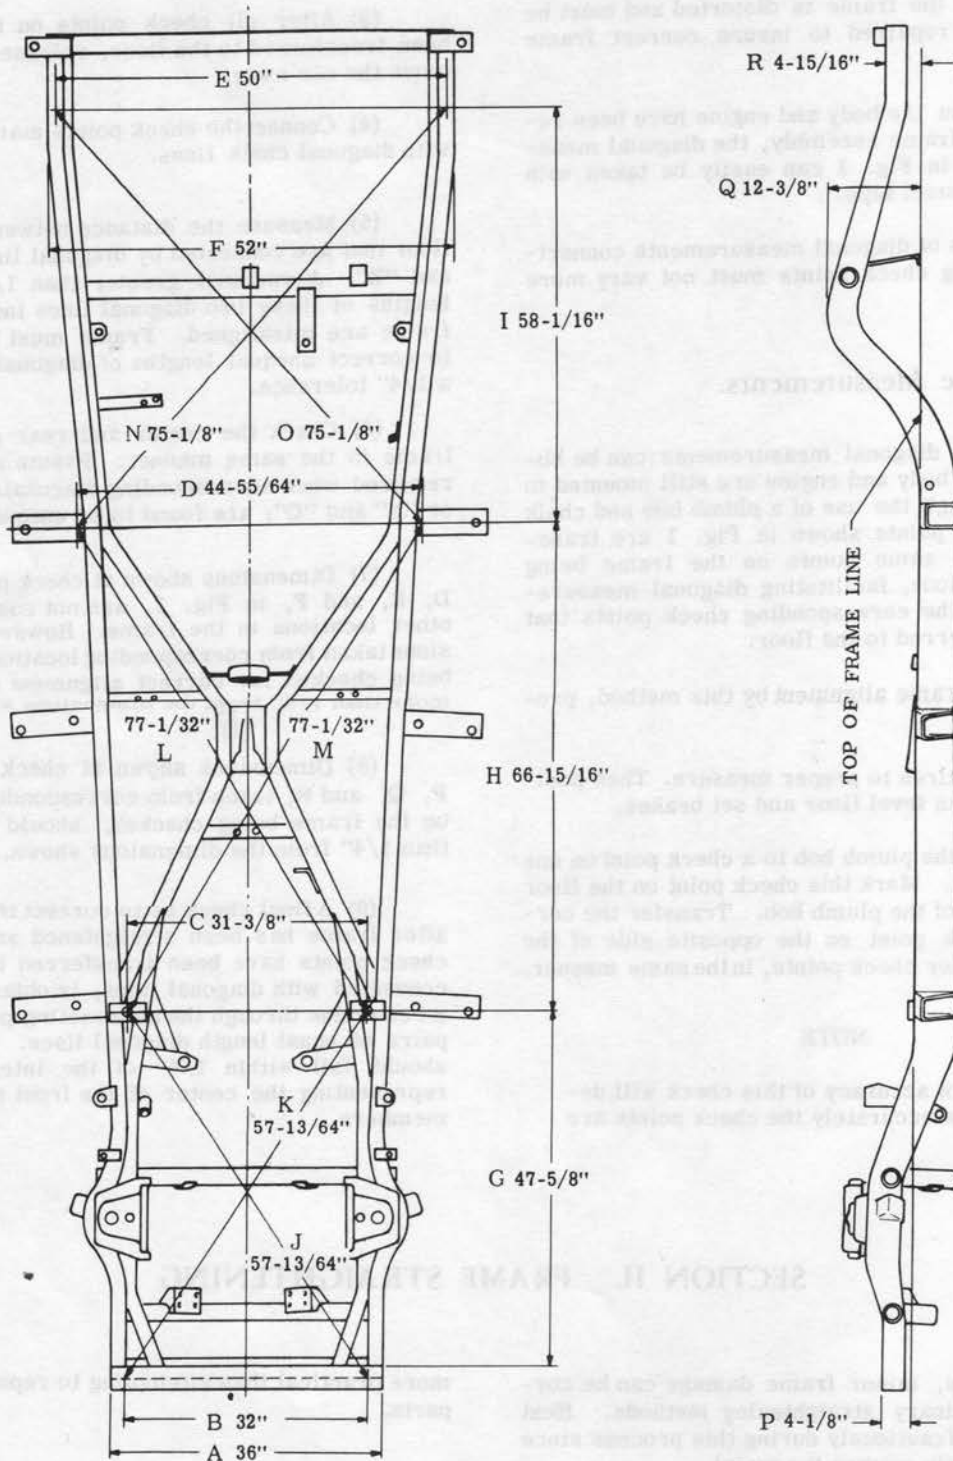

Fig. 1 - Frame Straightening Measuring Points
b. In the event the body and engine have been removed from the frame assembly, the diagonal measurements shown in Fig. 1 can easily be taken with tram gages or a steel tape.
a. The frame diagonal measurements can be obtained while the body and engine are still mounted to the frame, through the use of a plumb bob and chalk line. The check points shown in Fig. 1 are transferred from the same points on the frame being checked to the floor, facilitating diagonal measurements between the corresponding check points that have been transferred to the floor.
(1) Inflate tires to proper measure. Then position car on a clean level floor and set brakes.
(2) Attach the plumb bob to a check point on one side of the frame. Mark this check point on the floor under the point of the plumb bob. Transfer the corresponding check point on the opposite side of the frame, and all other check points, in the same manner.
(3) After all check points on the frame have been transferred to the floor, release the brakes and move the car away.
(4) Connect the check points marked on the floor with diagonal chalk lines.
(5) Measure the distance between points on the floor that are connected by diagonal lines marked "J" and "K". A variance greater than 1/4" between the lengths of these two diagonal lines indicates parts of frame are misaligned. Frame must be straightened to correct unequal lengths of diagonal lines to within a 1/4" tolerance.
(6) Check the center and rear sections of the frame in the same manner. Frame straightening is required when corresponding diagonals "L" and "M", or "N" and "O", are found to be unequal.
(7) Dimensions shown at check points, A, B, C, D, E, and F, in Fig. 1, are not comparable to any other locations in the frame. However, the dimensions taken from corresponding locations on the frame being checked for correct alignment should not vary more than 1/4" from the dimensions shown.
(8) Dimensions shown at check points G, H, I, P, Q, and R, taken from corresponding check points on the frame being checked, should not vary more than 1/4" from the dimensions shown.
(9) A final check as to correct frame alignment, after frame has been straightened and a new set of check points have been transferred to the floor and connected with diagonal lines, is obtained by drawing a centerline through the intersecting points of any two pairs of equal length diagonal lines. This centerline should fall within 1/4" of the intersecting points representing the center of the front and rear cross-members.